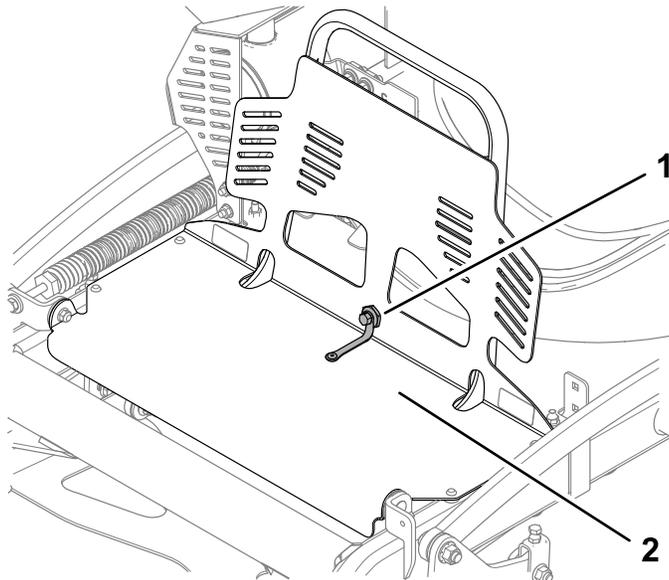

Figure 29
1. Remove the bolt and shoulder nut securing the engine guard to the guard extension (Figure 29).
- Secure the engine guard to the extension guard using the bolt and shoulder nut as shown in Figure 29.